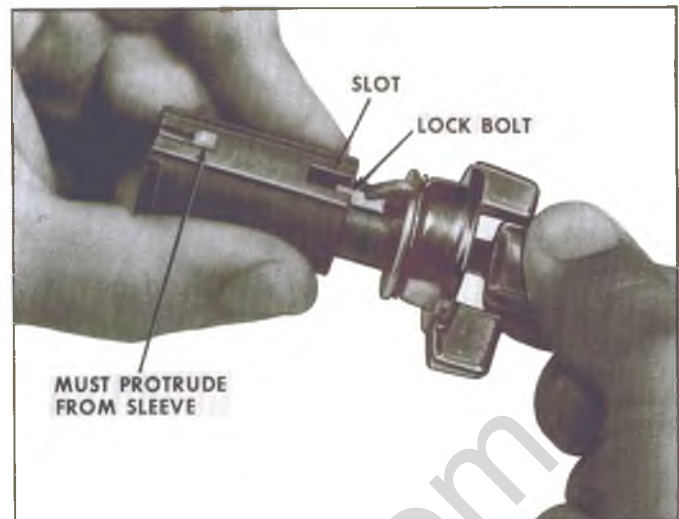

Fig. 56—Ignition Lock Cylinder Assembly
2. Make sure that the plastic keeper in the sleeve assembly protrudes from the sleeve (fig. 56).
3. Align the lock bolt on the lock cylinder and the tab on the anti-theft washer and the slot in the sleeve assembly (fig. 56). Push the sleeve all the way onto the lock cylinder assembly, push the ignition key the rest of the way in and rotate the lock cylinder clockwise.